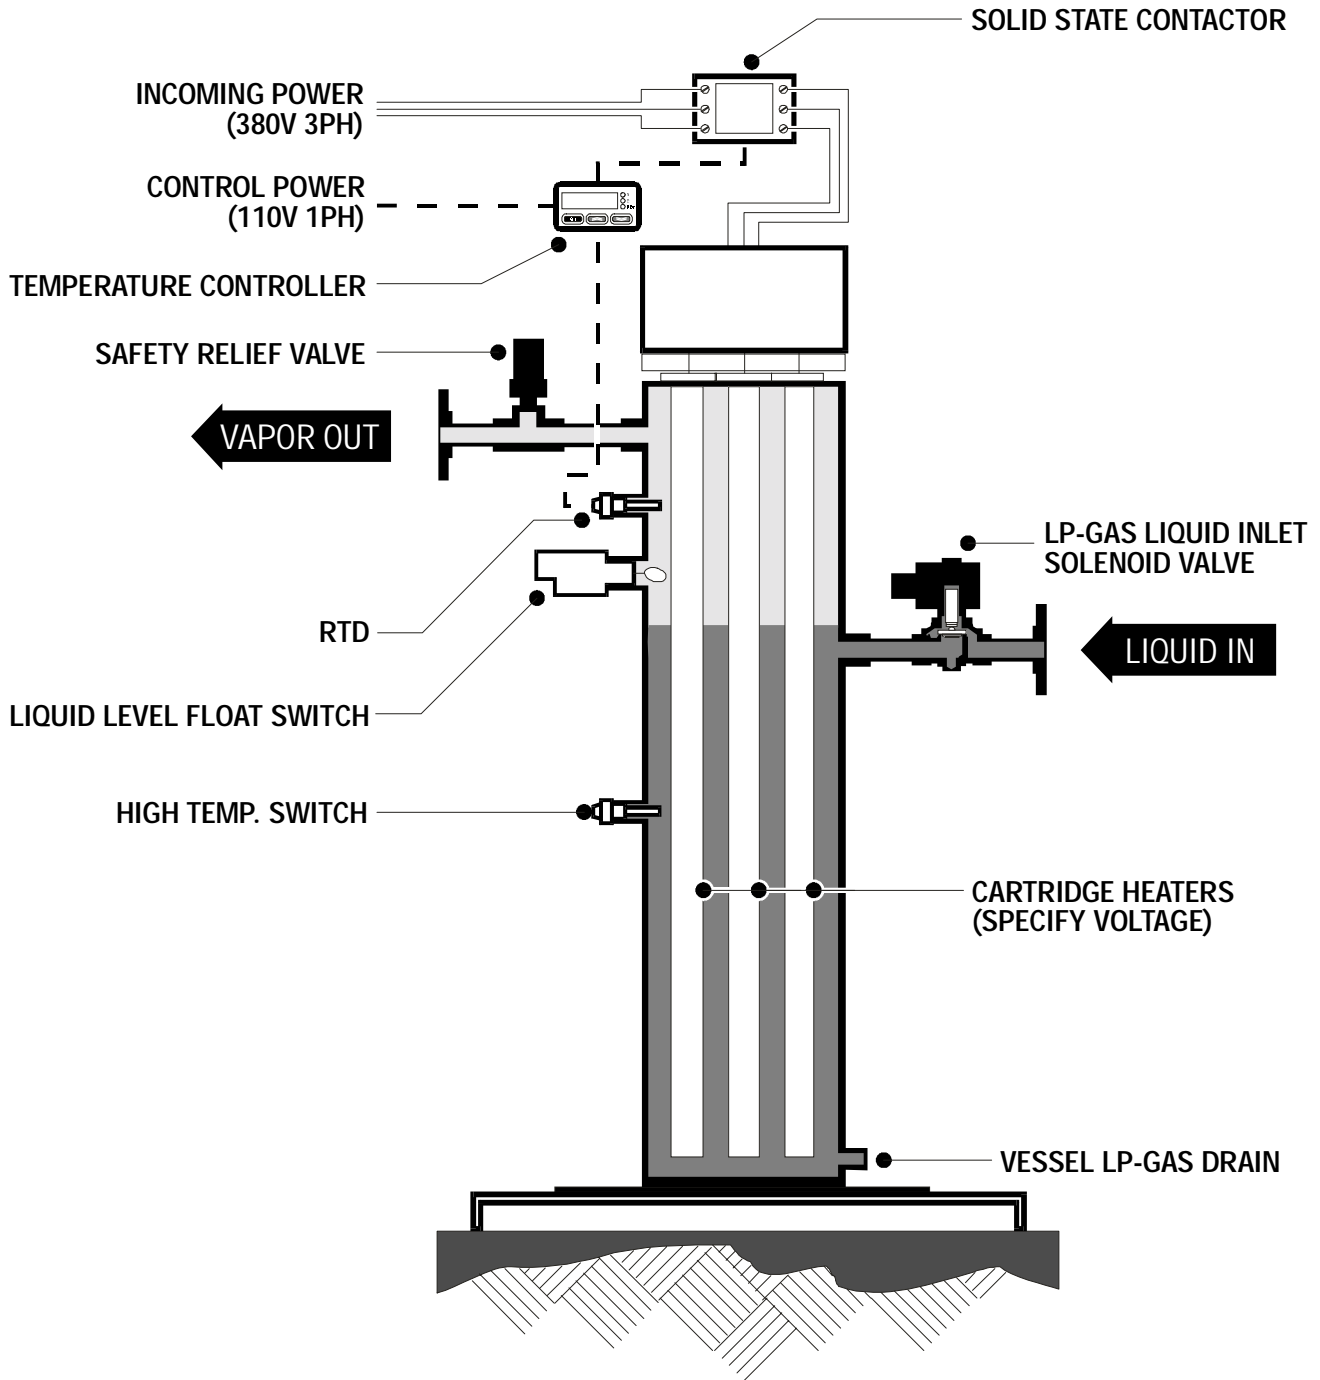

Figure 3-1 - General Schematic for RE Series Vaporizers
3.01 Figure 3-1 illustrates the general schematic for RE Vaporizers and is functionally equivalent for all RE Series Vaporizers.